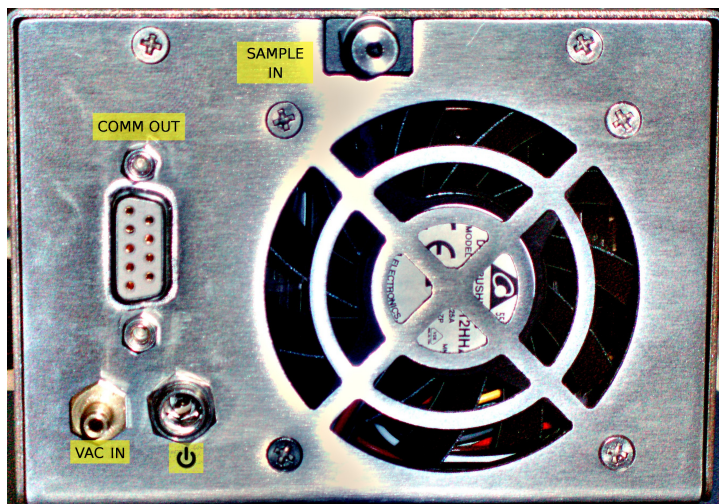

Figure 5: Back of TAP
The 1/8 inch barb fitting on the back of the TAP (figure 5), labeled VAC IN, needs to be connected to a vacuum pump capable of pulling 2 LPM at 9"Hg. **Oscillations and disruptions in the vacuum source may cause the filter to oscillate and affect the measurements.** A suitable pump may have been optionally purchased with the instrument. The sample line should be connected to the SAMPLE IN port. A 1/4-inch barb is included pre-installed on the instrument, or the underlying 10-32 threads may be used to adapt to other fittings.
The included AC adapter has an input voltage of 100-240 Volts ~1 AMP, 50-60 Hertz and an output of 24 Volts at 3 AMP. Replacement AC power cords are available for various wall plug styles. Insert the connector from the AC adapter into the TAP (figure 5) and connect to power source. **Ensure the barrel plug is fully seated in the connector before connecting the instrument to a computer.**
1. Plug the serial-to-USB connector into the instrument and the computer (figure 5).